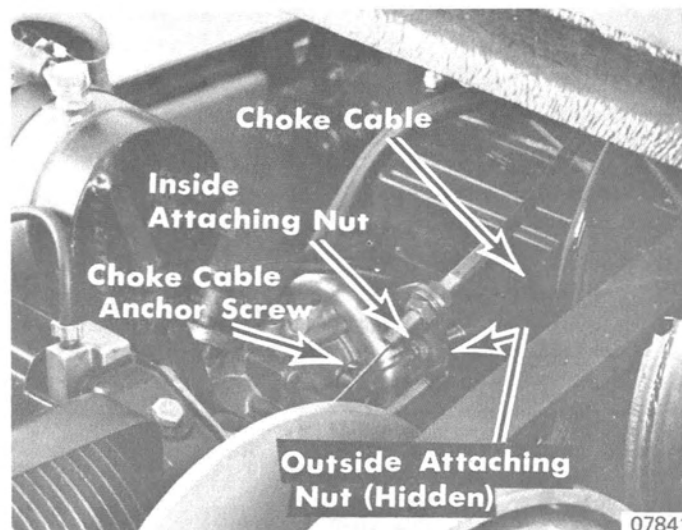

Figure 8. Carburetor - Mark II (Chassis Serial No. 3591478 and Below)
**NOTE:** On Mark II Model, link rod (Figure 8) need not be removed to remove choke cable.